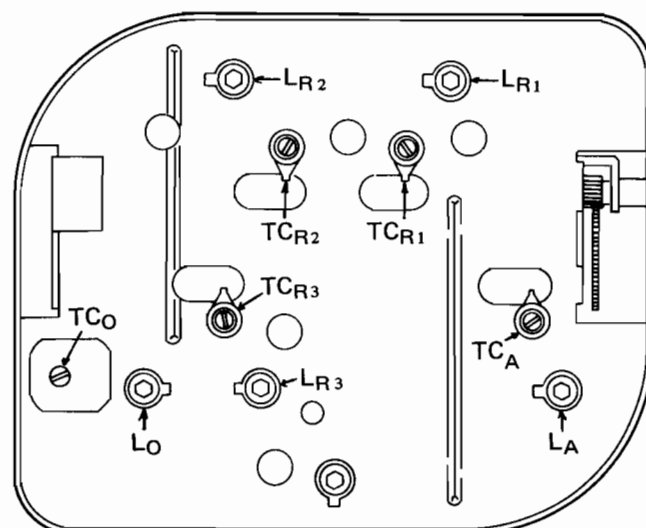

Fig. 15 Bottom view of FM front-end
4. Now set the dial indicator of TX-9500II and FM SG to 106MHz, and adjust each of the trimmers TC_O , TC_A , TC_{R1} , TC_{R2} , and TC_{R3} in the FM front-end (Fig. 15) to give maximum deflection on the AC voltmeter.